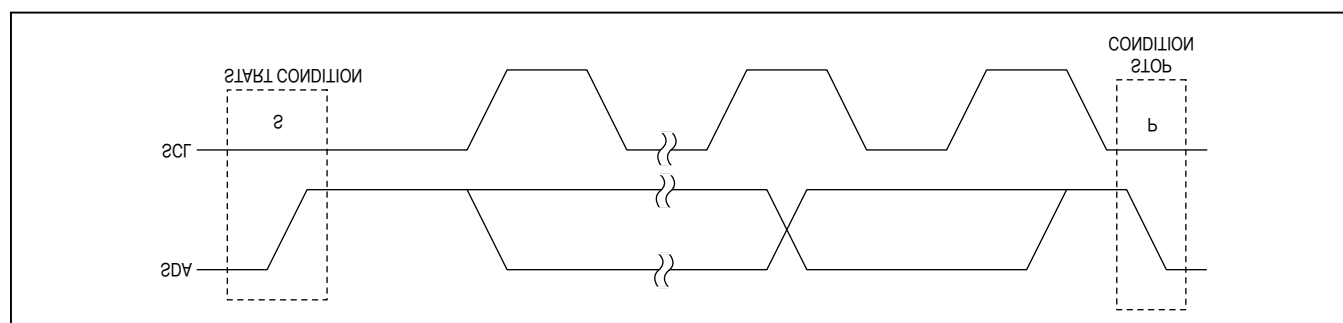
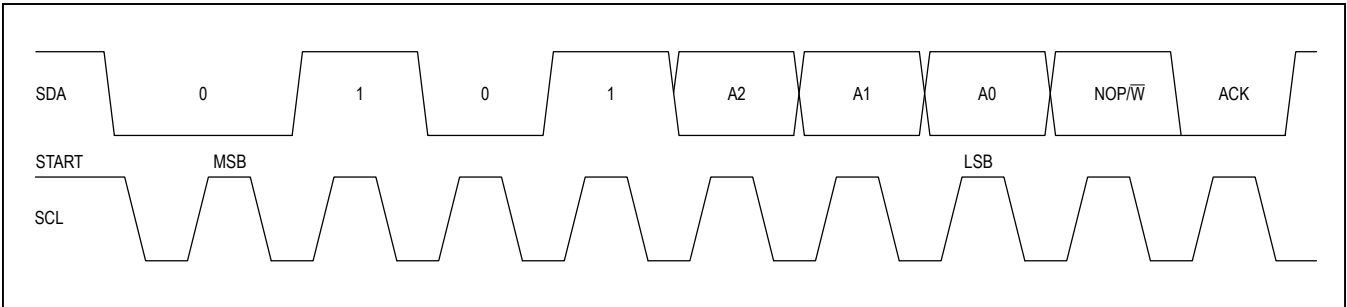

Figure 3. START and STOP Conditions
Figure 6. Slave Address
Each transmission consists of a START (S) condition (Figure 3) sent by a master, followed by the MAX5387 7-bit slave address plus the NOP/ $\overline{W}$ bit (Figure 6), 1 command byte and 1 data byte, and finally a STOP (P) condition (Figure 3).
The MAX5387 includes a 7-bit slave address (Figure 6). The 8th bit following the 7th bit of the slave address is the NOP/ $\bar{W}$ bit. Set the NOP/ $\bar{W}$ bit low for a write command and high for a no-operation command. The device does not support readback.